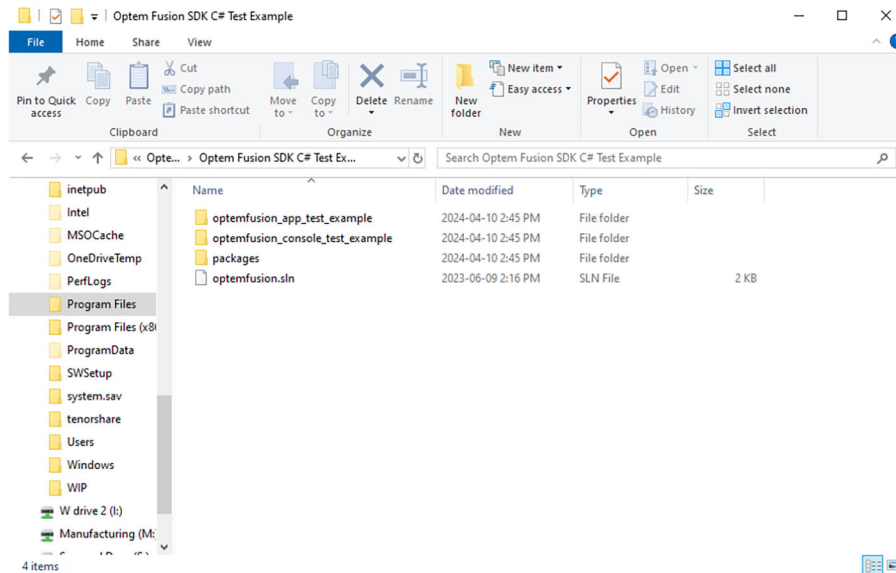

Figure 49 C# Test Example Executable File Folders
2. Locate the executable file from the following folder (see Figure 49):